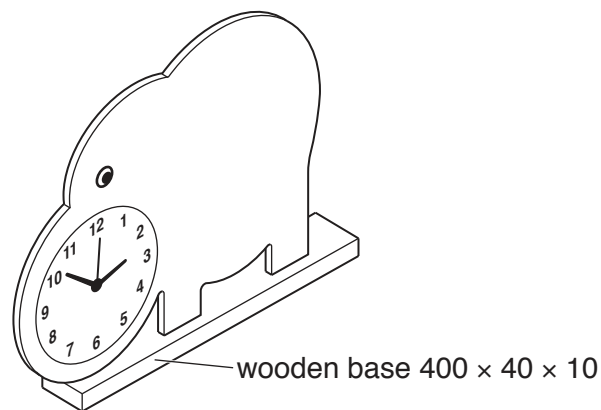

Fig. 8
- (c) Fig. 8 shows the clock shape made from manufactured board joined to a wooden base.